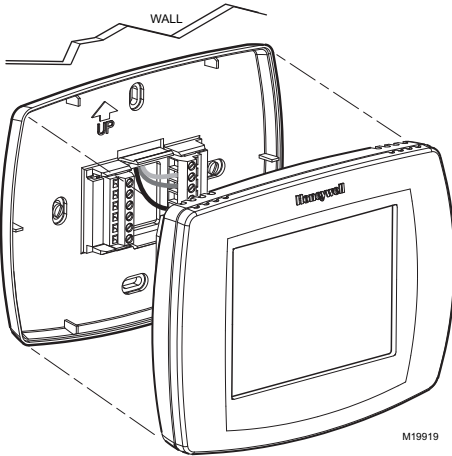

Fig. 25. Mount thermostat to wallplate.
2. Push the thermostat straight onto the wallplate until it snaps into place. See Fig. 25.